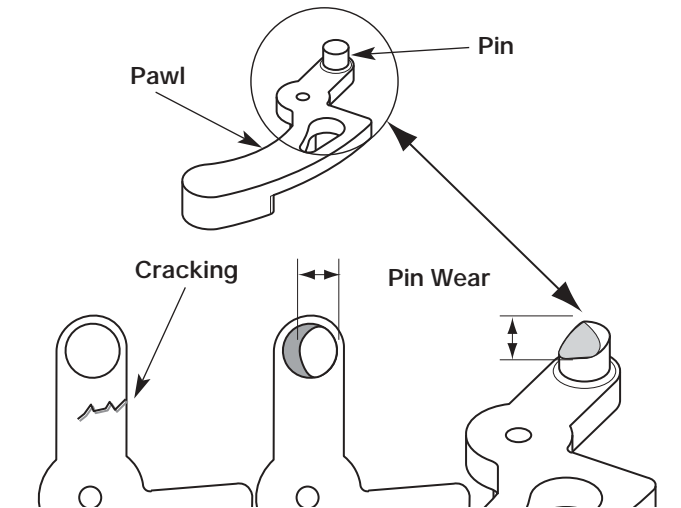

Fig. 13
4. Check the pawl for cracking or pin wear (Fig. 13).